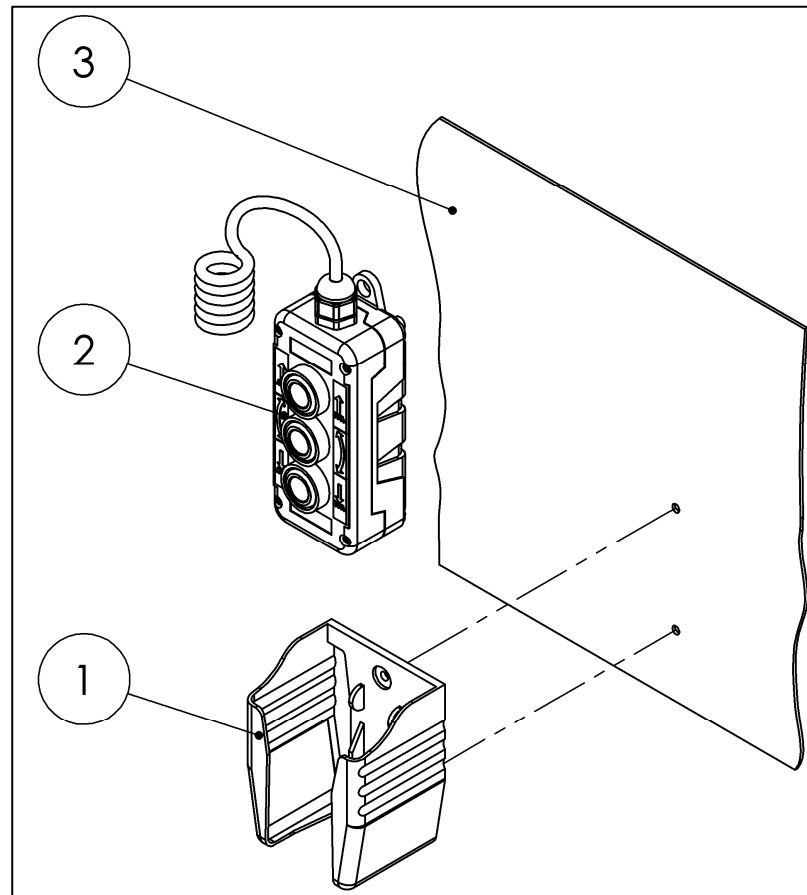

Fig. 24
- Mount the bracket (1) for the Handheld control (2) on the vehicle wall (3) using, for example, 2 screws or adhesive (see Fig. 24).